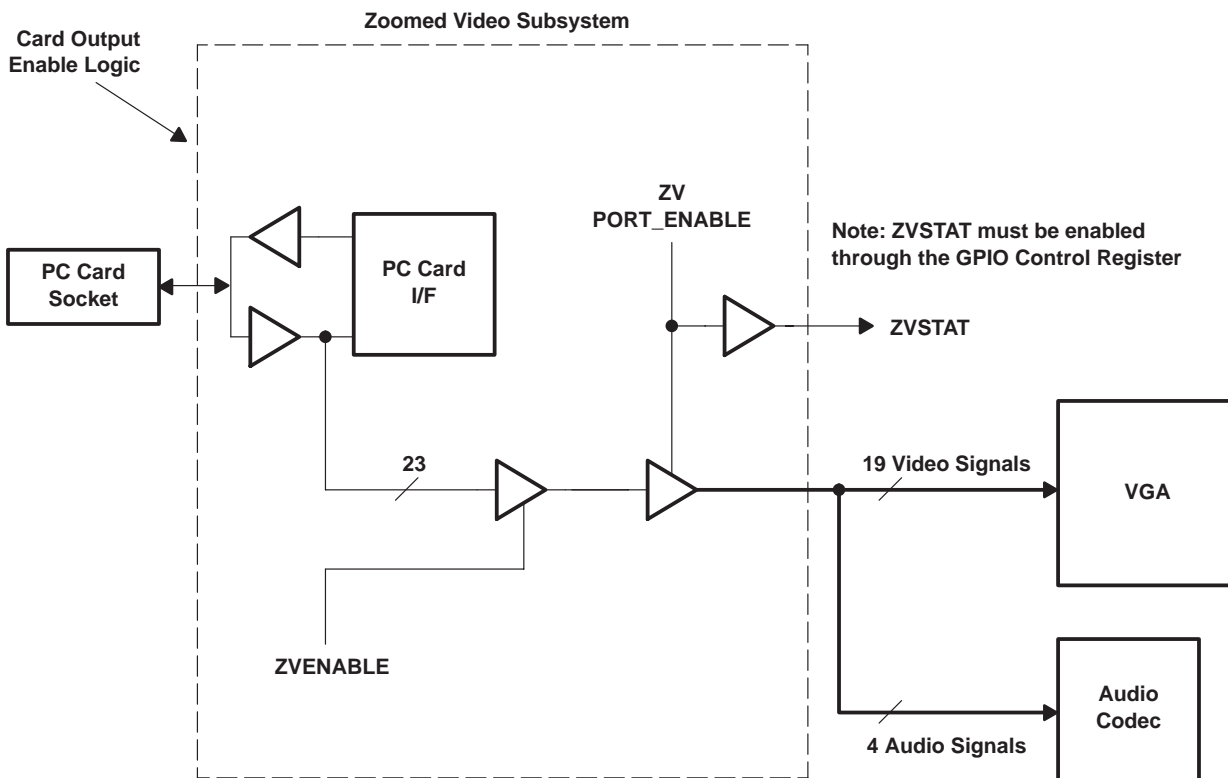

Figure 3-5. Zoomed Video Subsystem
The zoomed video (ZV) port on the PCI4410 provides an internally buffered 16-bit ZV PC Card data path. This internal routing is programmed through the card control register (offset 91h, bits 5 and 6). Figure 3-5 summarizes the zoomed video subsystem implemented in the PCI4410, and details the bit functions found in the card control register.